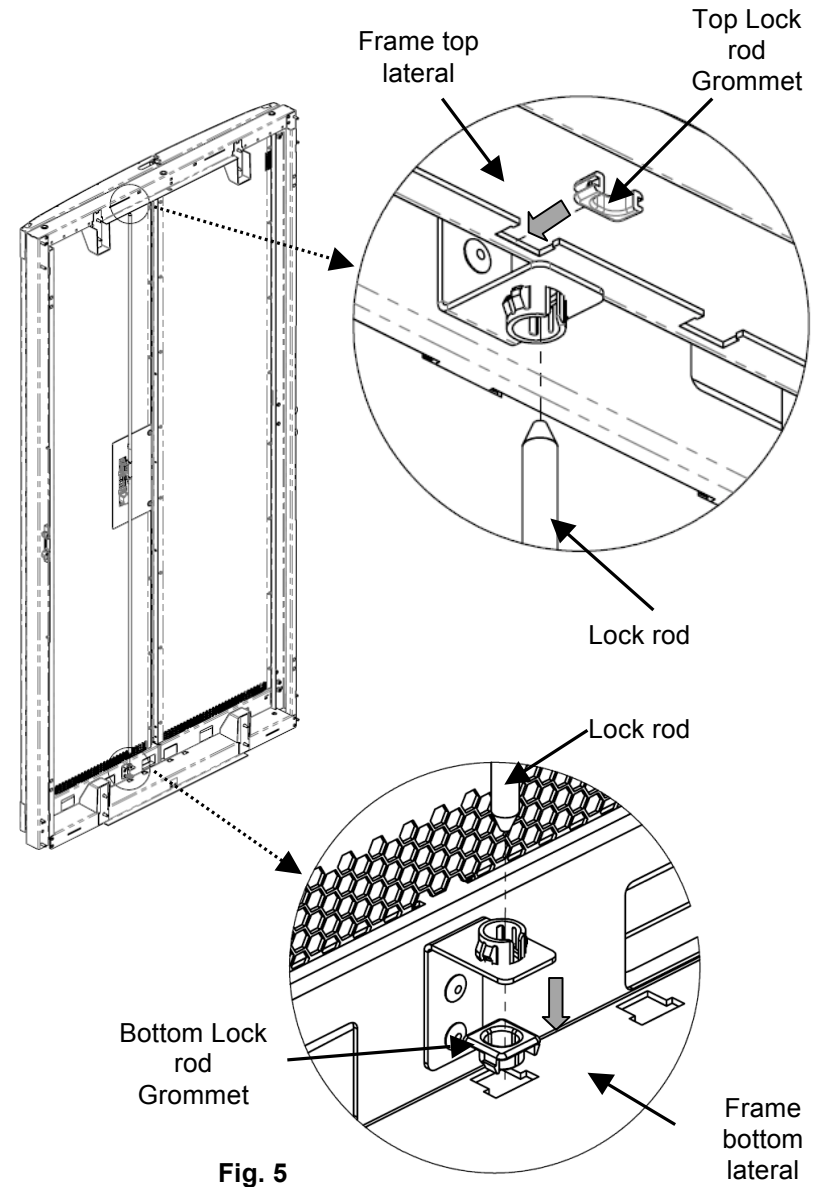

Fig. 5
11. Insert top and bottom lock rod grommets into respective frame top and bottom laterals (Fig.5)